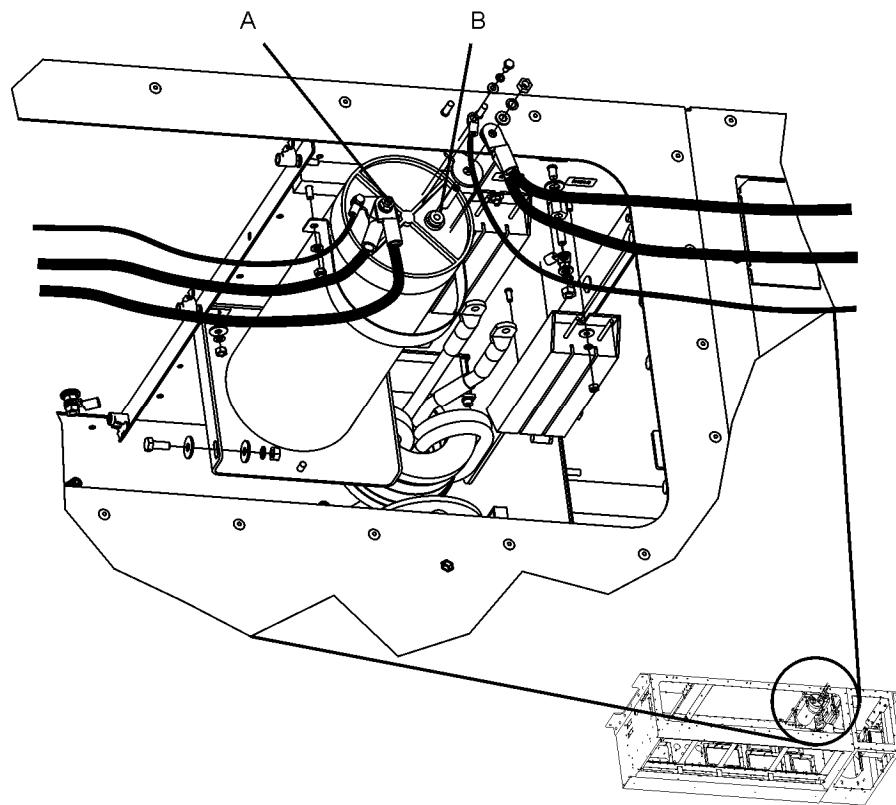
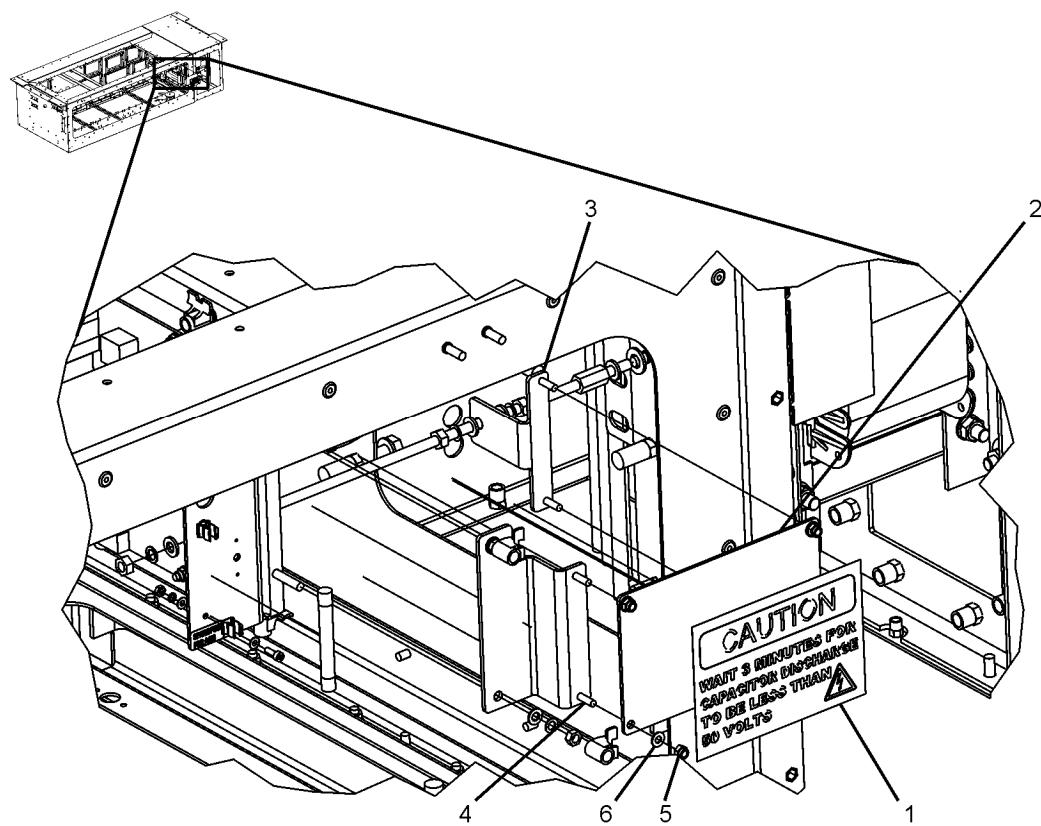

Figure 5-9: C101 Electrical Connections
Figure 5-10: C101 Capacitor Shield
4. Remove C101 Shield (see Figure 5-10). A shield (2) adorned with a caution message (1) regarding residual voltage in C101 acts as both signage and a safety device and blocks access to the C101. This shield is mounted on two holding devices (3 & 4) at two anchor points on each. The shield is held in place using M4 locking nuts (5) and M4 washers (6).
- a. Remove Fasteners. Remove the four M4 locking nuts (5) and four M4 washers (6).
- b. Remove Shield. Pull the shield (2) off the anchor points on the two holding devices (3 & 4).
- c. Inspect Caution Label. Inspect the caution sign (1) for damage and readability. Replace if needed.
5. Inspect Cables and Connections. Verify the labels on all cables connecting to the C101 (see Figure 5-9) and on the connection terminals are clear and legible. Replace these labels if necessary.
- a. Disconnect External Cables. There are six cables which connect to the C101 at two connection points. These connection points are identified as A & B and are shown in Figure 5-9. The cables are connected in groups of three on the poles of the C101 Capacitor and are fastened in place with M6 nut, washer and Schnorr washer sets. Remove these fasteners and disconnect the cables on both poles of the capacitor.
- a. Connect External Cables. There are six cables which connect to the C101 at two connection points. These connection points are identified as A & B and are shown in Figure 5-9. The cables are connected in groups of three on the poles of the C101 Capacitor and are fastened in place with M6 nut, washer and Schnorr washer sets. Connect the cables and affix these fasteners.
4. Replace C101 Shield (see Figure 5-10). A shield (2) adorned with a caution message (1) regarding residual voltage in C101 acts as both signage and a safety device and blocks access to the C101. This shield is mounted on two holding devices (3 & 4) at two anchor points on each. The shield is held in place using M4 locking nuts (5) and M4 washers (6).
- a. Inspect Caution Label. Inspect the caution sign (1) for damage and readability. Replace if needed.
- b. Install Shield. Position the shield (2) on the anchor points on the two holding devices (3 & 4) with the writing on the sign (1) upright and facing forward.
- c. Affix Fasteners. Add the four M4 locking nuts (5) and four M4 washers (6). Tighten the nuts to fit.